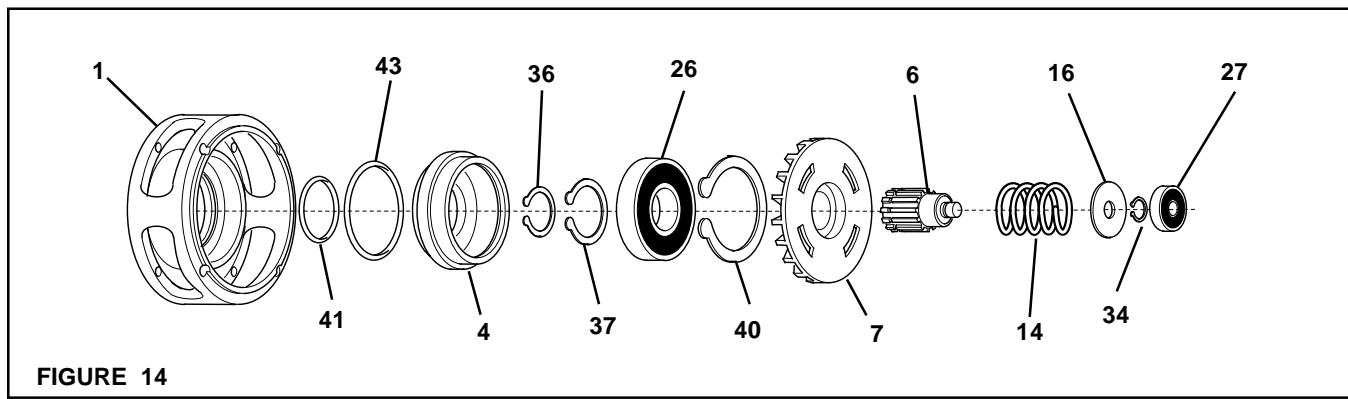

FIGURE 14
1. Remove the old Ball Bearing (Item 27) (See Figure 14).
2. Remove the Retaining Ring (Item 36) from the Hub (Item 6) (See Figure 14).
3. Slide the Hub (Item 6), Compression Spring (Item 14), Spring Retainer Washer (Item 16) and Retaining Ring (Item 34) out of the Friction Disc (Item 7) (See Figure 14).
4. Press the Piston (Item 4), Friction Disc (Item 7), and Ball Bearing (Item 26) out of the Housing (Item 1) (See Figure 14).
5. Remove the old O-ring Seals (Items 41 and 43) from the Piston (Item 4) and Housing (Item 1) (See Figure 14).
6. Remove the Retaining Ring (Item 37) from the Friction Disc (Item 7); then, using a bearing puller, remove the Piston (Item 4) and old Ball Bearing (Item 26) from the Friction Disc (Item 7) (See Figure 14).
7. Remove the Retaining Ring (Item 40) from the Piston (Item 4) and press the old Ball Bearing (Item 26) out of the Piston (See Figure 14).
8. Clean the bearing bore of the Piston (Item 4) with fresh solvent, making sure all old Loctite® residue is removed (See Figure 14).
9. Apply an adequate amount of Loctite® 680 to evenly coat the outer race of the new Ball Bearing (Item 26) and press the new Ball Bearing into the Piston (Item 4) (See Figure 14).
10. Reinstall the Retaining Ring (Item 40) (See Figure 14).
11. Support the inner race of the new Ball Bearing (Item 26); then, press the Friction Disc (Item 7) into the Piston (Item 4) and new Ball Bearing (Item 26) (See Figure 14).
12. Reinstall the Retaining Ring (Item 37) (See Figure 14).
13. Lubricate the new O-ring Seals (Items 41 and 43) and the o-ring contact surfaces of the Piston (Item 4) and Housing (Item 1) with a thin film of fresh o-ring lubricant (See Figure 14).
14. Install the new O-ring Seals (Items 41 and 43); then, slide the Piston (Item 4) and Friction Disc (Item 7) into the Housing (Item 1) (See Figure 14).
15. Inspect the Compression Spring (Item 14) for signs of fatigue and replace it if necessary (See Figure 14).
16. Apply a thin film of Never-Seez® to the splines of the Hub (Item 6); then, slide the Hub, Compression Spring (Item 14), Spring Retainer Washer (Item 16) and Retaining Ring (Item 34) into the Friction Disc (Item 7) (See Figure 14).
17. Reinstall the Retaining Ring (Item 36) (See Figure 14).
18. Slide a new Ball Bearing (Item 27) onto the Hub (Item 6) (See Figure 14).